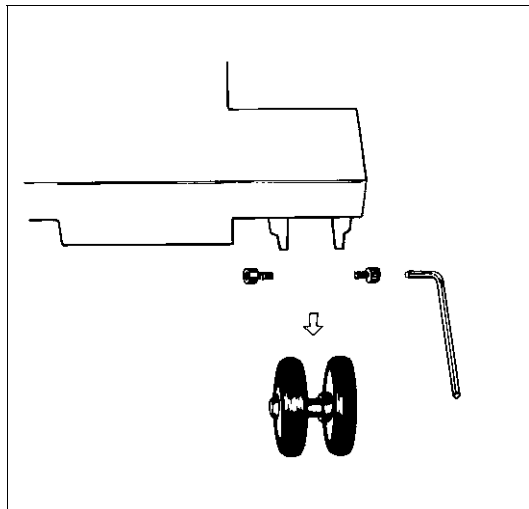

Fig. 5:
- Remove the wheels (Fig. 5 / p. 28).